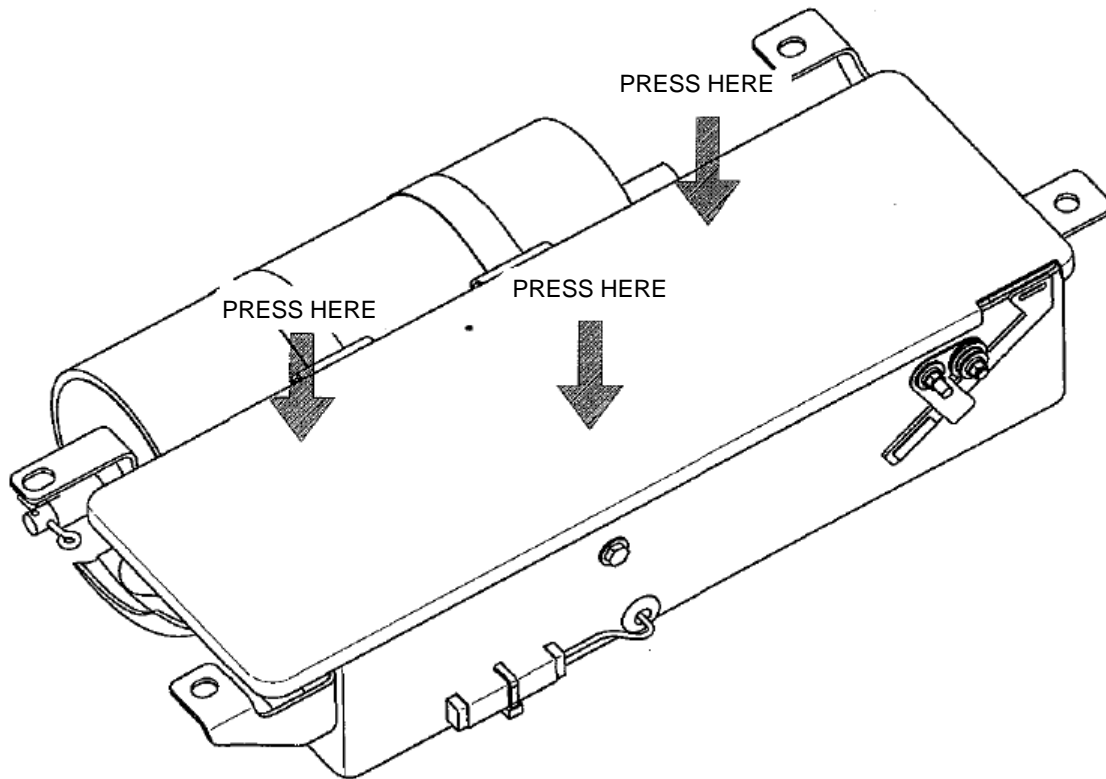

Figure 12 - Closing the Door on the Rear (AFT) Flight Attendant Mask Assembly
- Step 8. Press on the 2 hinge side corners of the door and then along the edge of the door to seat the hinges as shown in Figure 12.